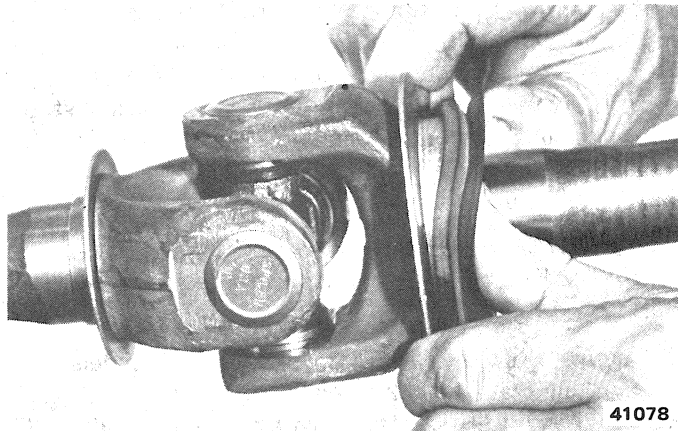

Fig. 2F-14 Axle Shaft Seal Installation
(1) Remove axle shaft. Refer to Axle Shaft-Removal procedure.
(2) Remove seal from axle shaft (fig. 2F-14).